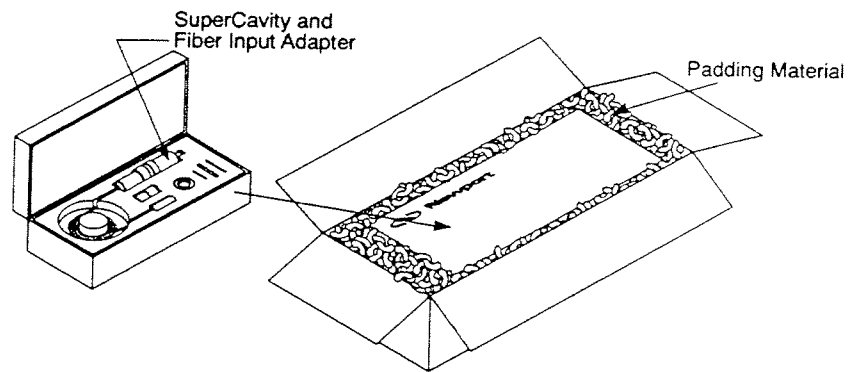

Figure 11 — Schematic for Packaging of SuperCavity and Fiber Input Adapter.
2. If the original packaging is damaged or otherwise unusable, duplicate that packaging to the greatest extent possible. Err on the side of safety where the padding and other protection is concerned. Figure 11 will be of assistance in this process.